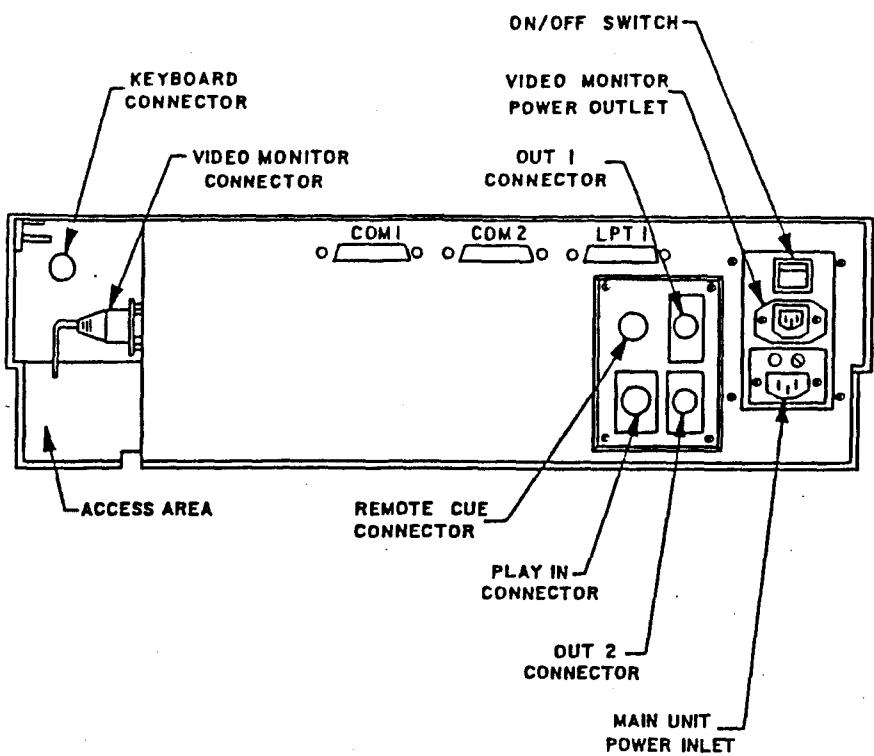

FIGURE 3-1 REAR PANEL CONNECTORS
- STEP 2** Connect the video monitor power cord into the power socket on the main unit rear panel. Refer to Figure 3-1..
- STEP 3** Connect the video monitor interface cable to the 9-pin video monitor connector in the side panel access area. Refer to Figure 3-1.
the OFF position. (The red circle on the switch should be showing). See Figure 3-1.